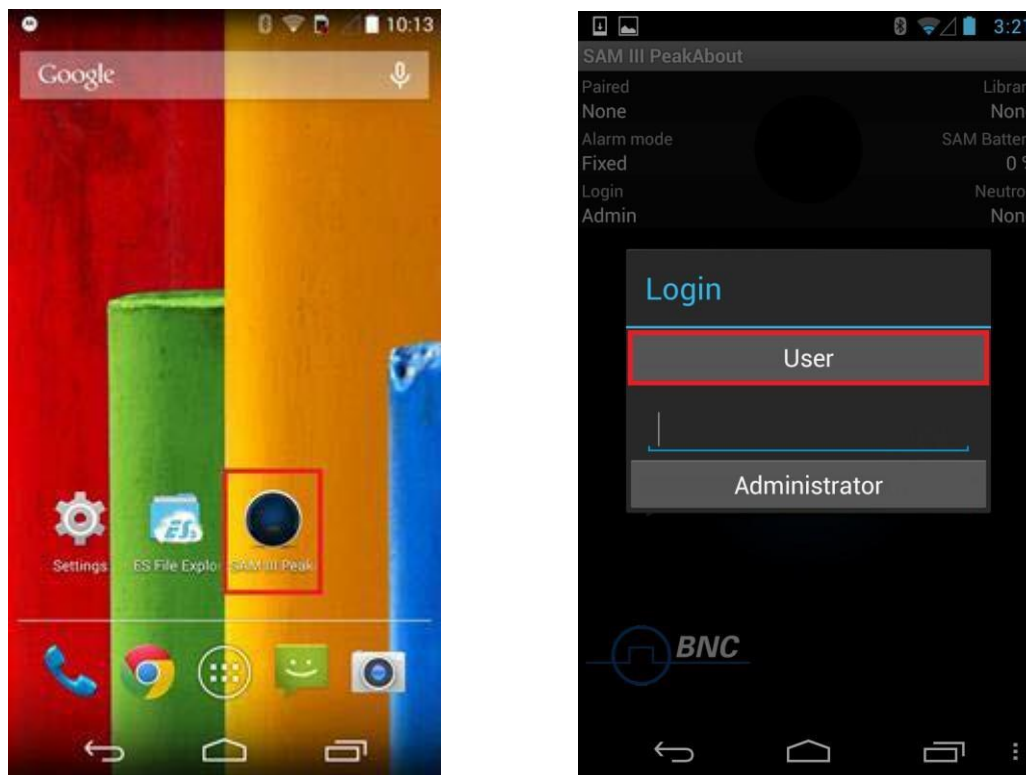

Figure 4.6. PeakAbout icon and login screen
2. Open PeakAbout by touching the **PeakAbout** icon on the smartphone's Applications menu (Figure 4.6, left).
1. Log in as User (no password needed) or as Administrator (password protected) (Figure 4.6, right).